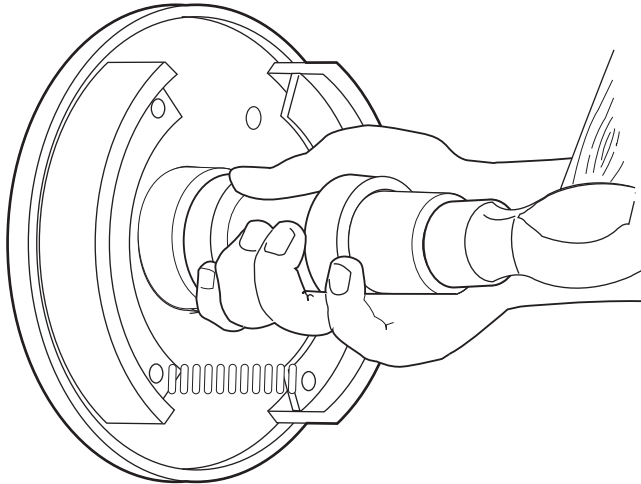

Figure 7 Installing Seal
3. To install the seal, use the special seal installer to drive the seal into its correct position (Ref. Figure 7).